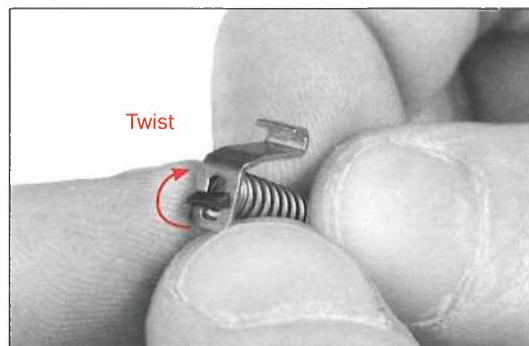
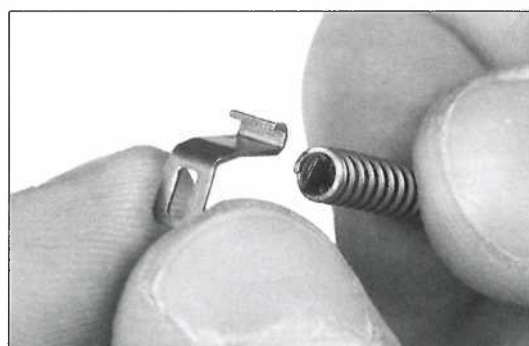

Fig. 243
Fig. 244
- While holding the bearing as shown (Fig. 243), carefully twist the trigger spring assembly to align with the slot allowing the spring and the rod to be removed. (Fig. 244)